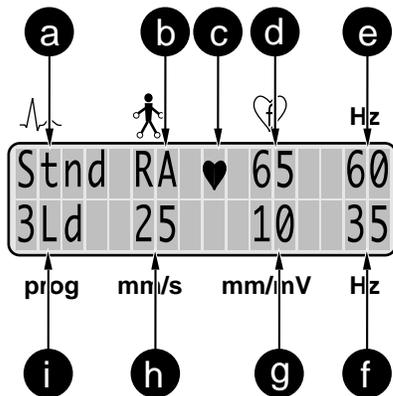

Figure 6-1. 3 Lead mode display
With the factory defaults unchanged, the MAC[®] 500 selects the following functions and settings (the most important settings are indicated on the display, Figure 6-1):
- Before starting the recording with  , check that there is no lead-fail indication on the display - **b**, Figure 6-1. If the lead-fail message persists after you have checked the electrode connections, there could be a break in the patient cable and the cable should be replaced. Also check the paper supply.